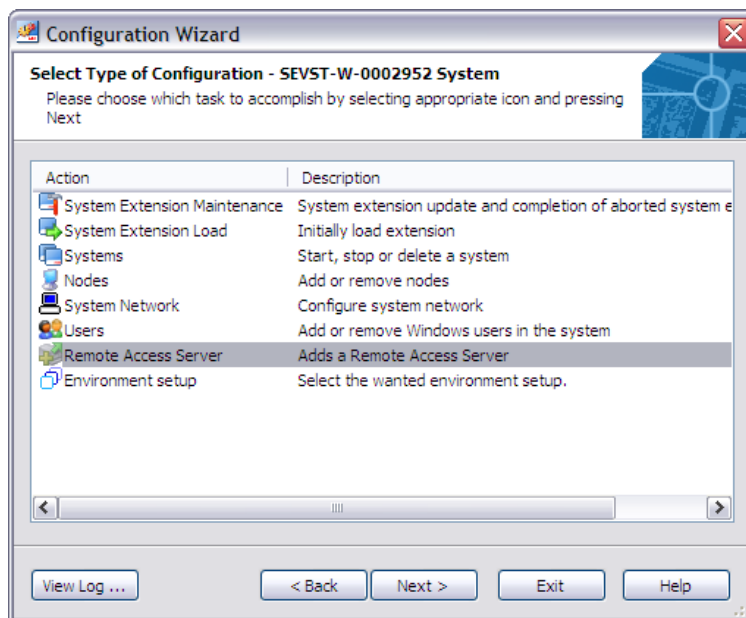

Figure 10. Create Remote Access Server
2. Select **Remote Access Server** option, click **Next**, see Figure 10.